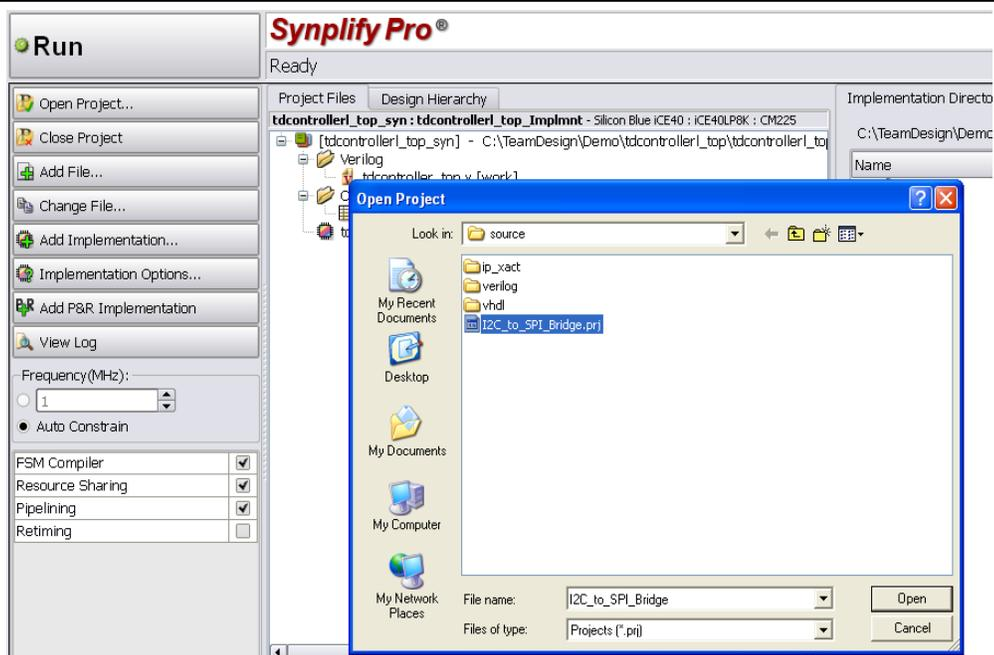
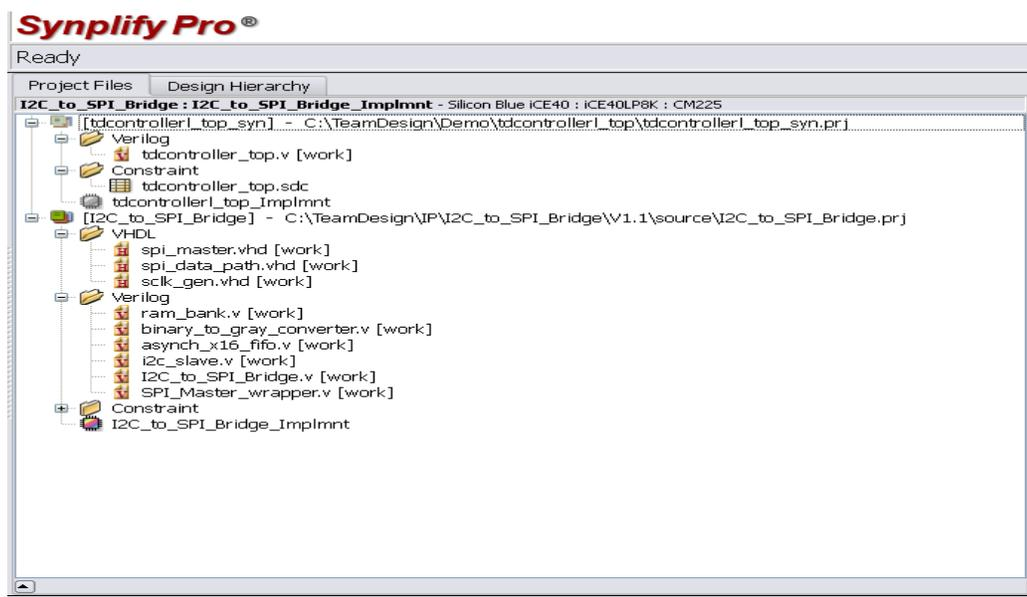

Figure 9-6: Select the I2C_to_SPI_Bridge.prj file
Figure 9-7 : Created IP Block Project
2. In Synplify Pro, click on the "Open Project" icon. Select "Existing Project" in the "Open Projects" dialog box. Browse to the "<user_IP_dir>/IP/I2C_to_SPI_Bridge/V1.1/source" location and add the existing "I2C_to_SPI_Bridge.prj" file as shown in Figure 9-6. This opens the "I2C_to_SPI_Bridge" project in Synplify Pro and automatically imports the required source files. See Figure 9-7.